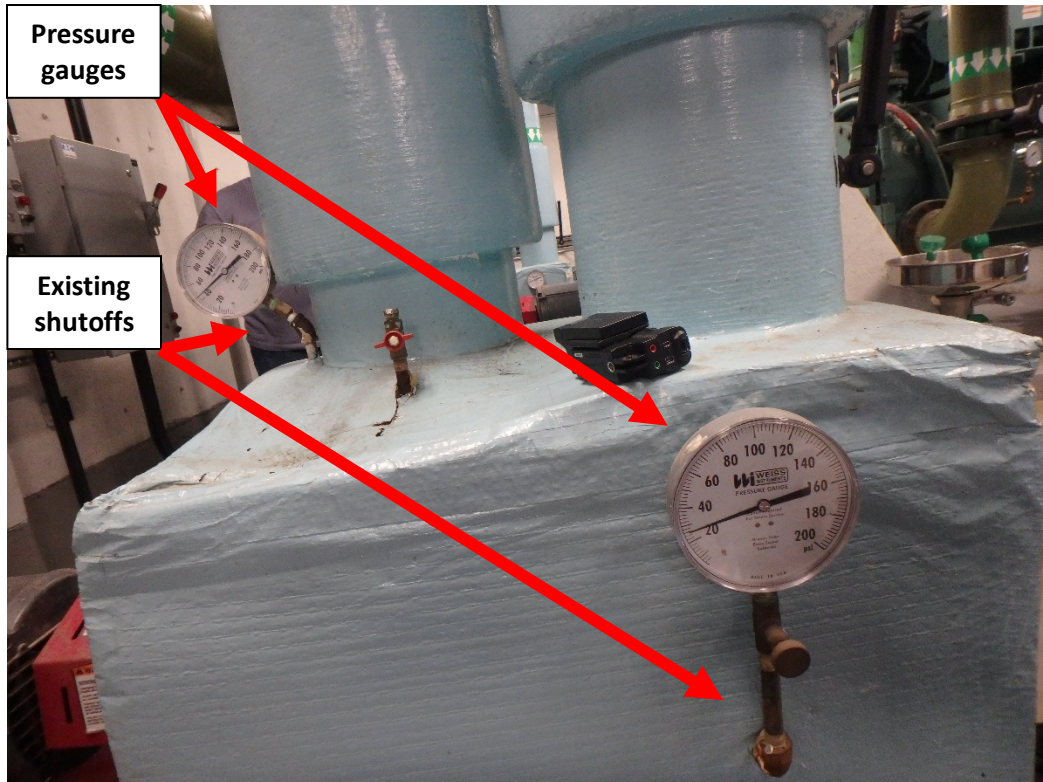

Figure A.9.10: Pressure gauges on an evaporator pump for a chilled water system.
1. Locate the pressure gauge attached to the shutoff for the system in which measurements will be taken from. See Figure A.9.10.